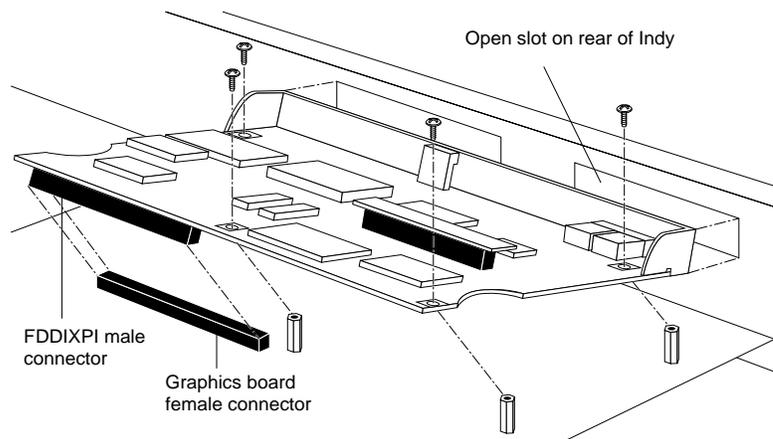

Figure 1-9 Attaching the FDDIXPI board to the graphics board
- Using the Phillips screwdriver and four of the screws from the plastic bag, secure the FDDIXPI board to the graphics board in the locations indicated in Figure 1-9. As you tighten the screws, alternate among them so that the boards are brought together gradually and evenly.